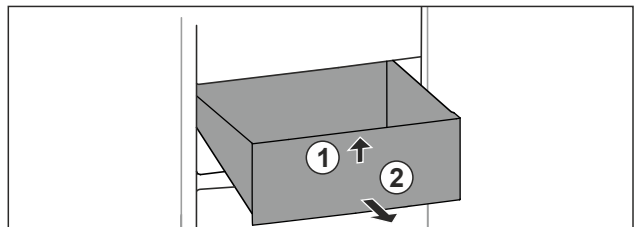

Fig. 56
- ▶ Lift up drawer at the front. Fig. 56 (1).
- ▶ Remove drawer to the front. Fig. 56 (2).